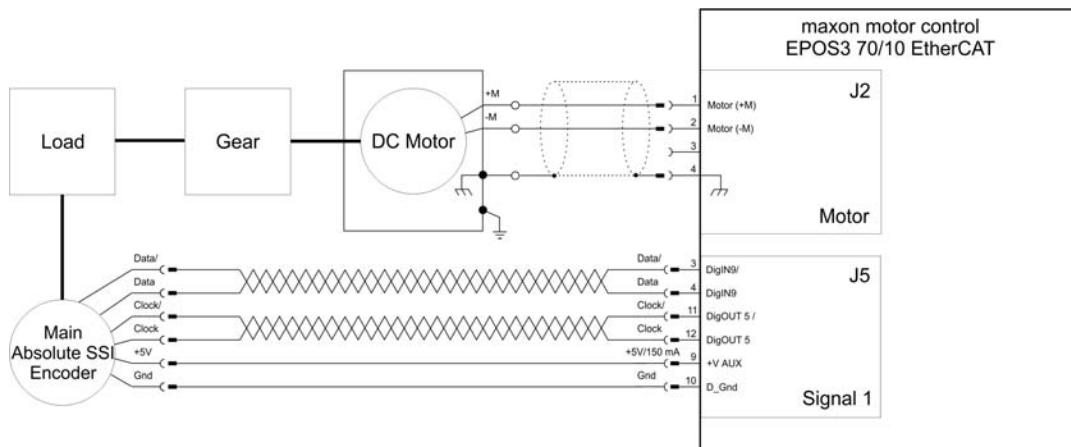

Figure 9-96 Example 1 – Wiring Diagram
- 1) Wire the system according to the wiring diagram (→Figure 9-96).